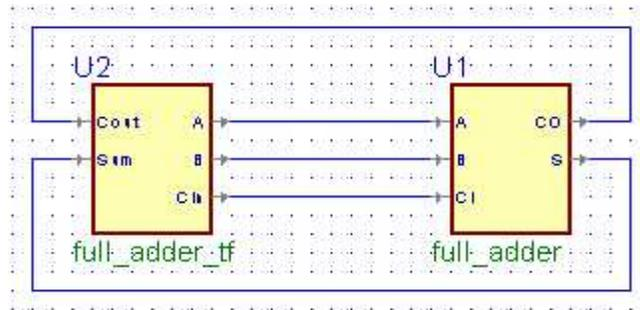

Figure 4
5. The test fixture will drive the input signals of the full adder and test the full adder's outputs. Connect the two units using wires. The outputs of the test fixture connect to the corresponding inputs of the full adder, and the inputs of the test fixture connect to the corresponding outputs of the full adder (Figure 4).